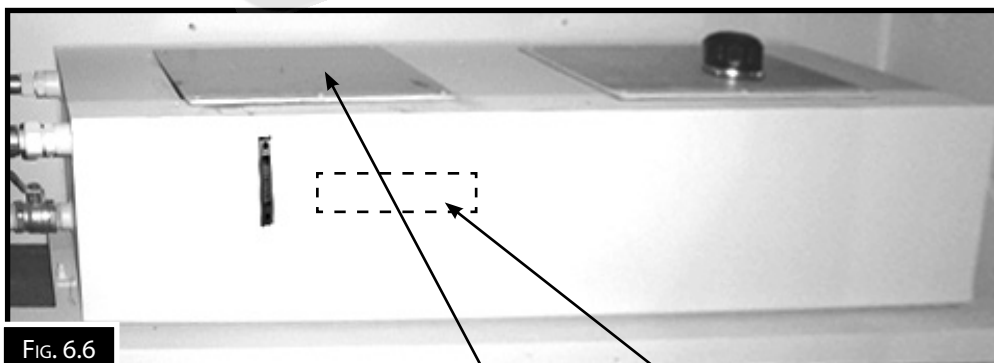

FIG. 6.6
3. Screw the new filter into its place in the tank and replace the cover. (Fig 6.6)